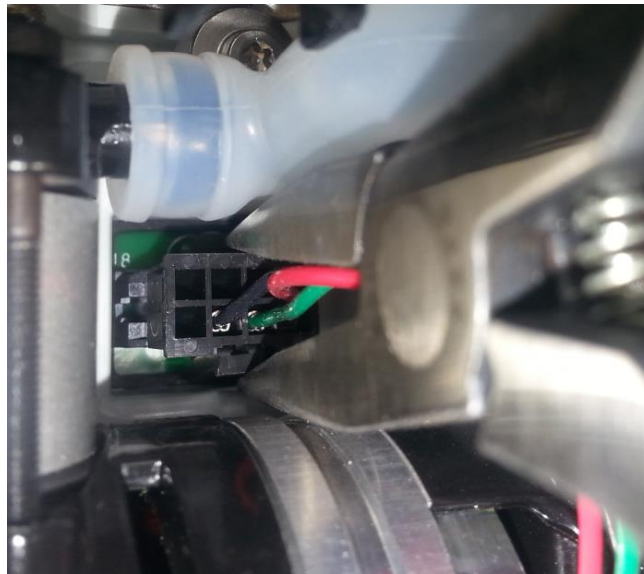

Figure 5: Detach compressor cable from motherboard
1. Locate the compressor cable. Detach the compressor cable from the motherboard using long pliers to press down on the release clip while pulling the connector housing (Figure 5). *Do not pull on the compressor wires.*